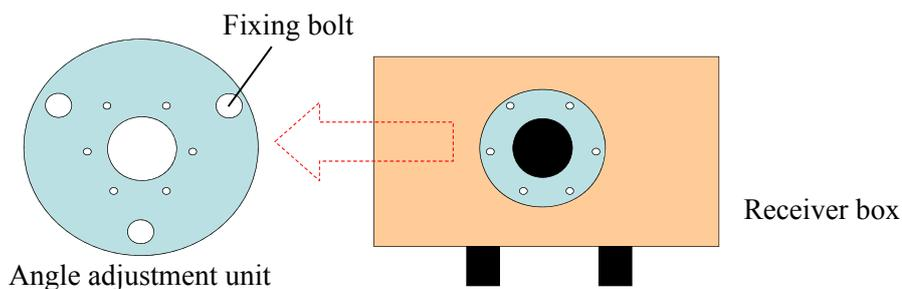

Fig. 4—8
- (1) When A and B flanges shown in Fig. 4—4 are extremely tilted, adjust them in a flat place so that they are parallel to each other. Refer to “4.7.1 How to operate the angle adjustment unit 1” before mounting the stack unit.
- (2) Mount the angle adjustment unit to the companion flange on the stack.
When mounting it, be careful of the direction of the fixing bolts on the angle adjustment unit so as to be as to be shown in Fig. 4—8. Fix them at this time so that the outer circumferences of the companion flange on the stack side and the flange on the angle adjustment unit coincide as much as possible. After fixing them, mount the receiver box and the transmitter box, referring to “4.9 Assembly of receiver unit and transmitter unit”.